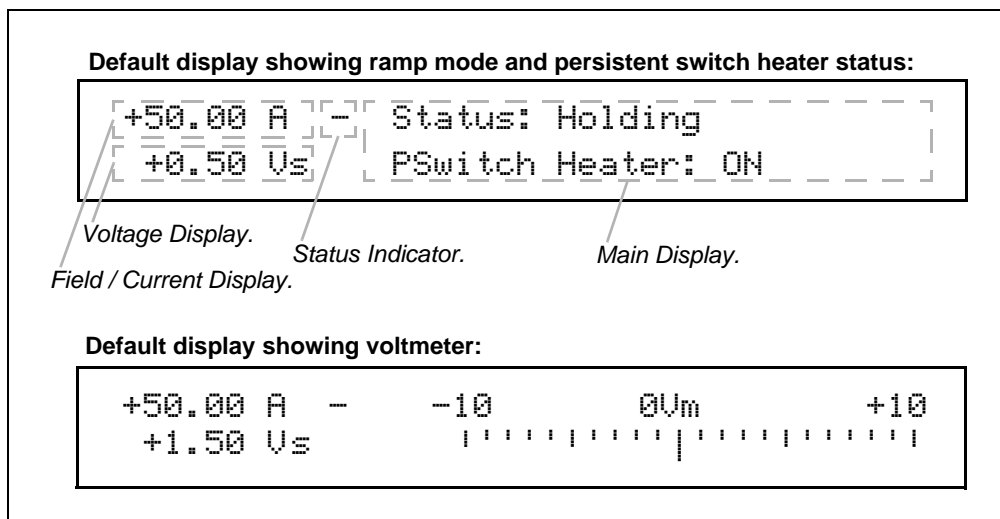

Figure 3-1. Default Display.
The field / current display indicates either the field strength or current¹. This is always displayed in the upper left corner of the display (see Figure 3-1), regardless of what else is being displayed on the Model 430 Programmer display. The parameter displayed (field or current) is toggled by pressing **SHIFT** followed by **FIELD <> CURRENT**. Thus, if field strength is being displayed, pressing **SHIFT** followed by **FIELD <> CURRENT** will cause the current to be displayed; conversely, if current is being displayed, pressing **SHIFT** followed by **FIELD <> CURRENT** will cause the field strength to be displayed. Operating current is always displayed in amperes (A). Operating field strength may be displayed in kilogauss (kG) or tesla (T) if a coil constant has been specified in the setup². If field strength is being displayed, the units (kG or T) in which it is displayed can be toggled by pressing **SHIFT** followed by **FIELD UNITS**.
The voltage display indicates either the voltage across the magnet (V_m) or the power supply output voltage (V_s). This is always displayed in the lower left corner of the display (see Figure 3-1), regardless of what else is being displayed on the Model 430 Programmer display. The parameter displayed (magnet voltage or power supply voltage) is toggled by pressing **SHIFT** followed by **Vs <> Vm**. V_m indicates the voltage measured across the terminals of the connected superconducting magnet. In order for the Model 430 Programmer to measure the magnet voltage, the magnet voltage taps must be connected to the Model 430. Normally this is done through the Magnet Station Cable provided by AMI (if the whole magnet system is provided by AMI). V_s indicates the Model 430 Programmer-controlled power supply output voltage.
The status indicator indicates the Model 430 Programmer operating status. It is always visible (except during a quench condition) and is displayed just to the right of the field / current display (see Figure 3-1). The status indicator may be one of six symbols indicating one of the seven states shown in Table 3-1.
The default main display (the rightmost portion of the display – see Figure 3-1) shows either a voltmeter indicating magnet voltage or ramp mode and persistent switch heater state. Ramp mode is displayed on the top line of the main display; it will be one of eight states, as shown in Table 3-6 on page 76. Persistent switch heater state is displayed on the bottom line of the main display. If the Model 430 Programmer has been setup for use with a persistent switch, it will indicate either ON or OFF for the persistent switch heater state; otherwise, it will display “No PSwitch Installed.”